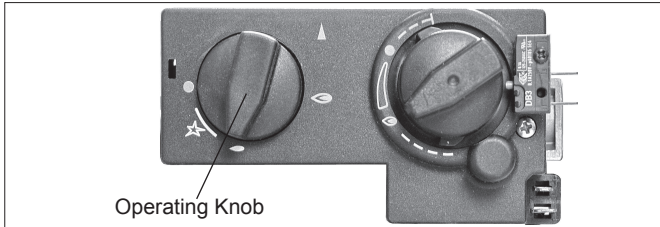

Figure 1: GV34
2. GV30/34 - Turn the operating knob to the pilot gas position (small flame) (see figure 1).